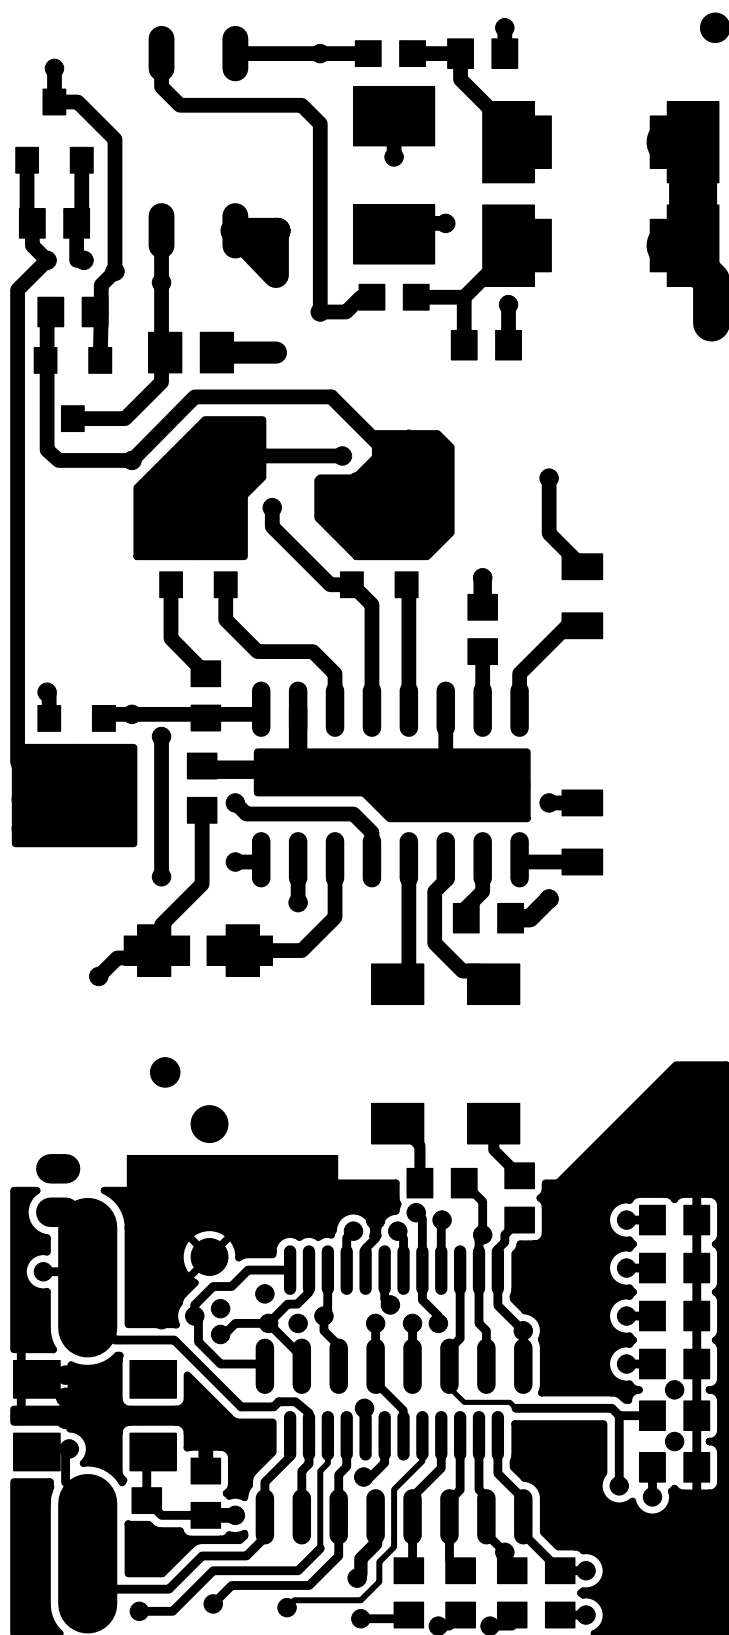

Figure 16. Daughter Card Primary Side Layout
- Updated Figure 16, "Daughter Card Primary Side Layout," on page 25.